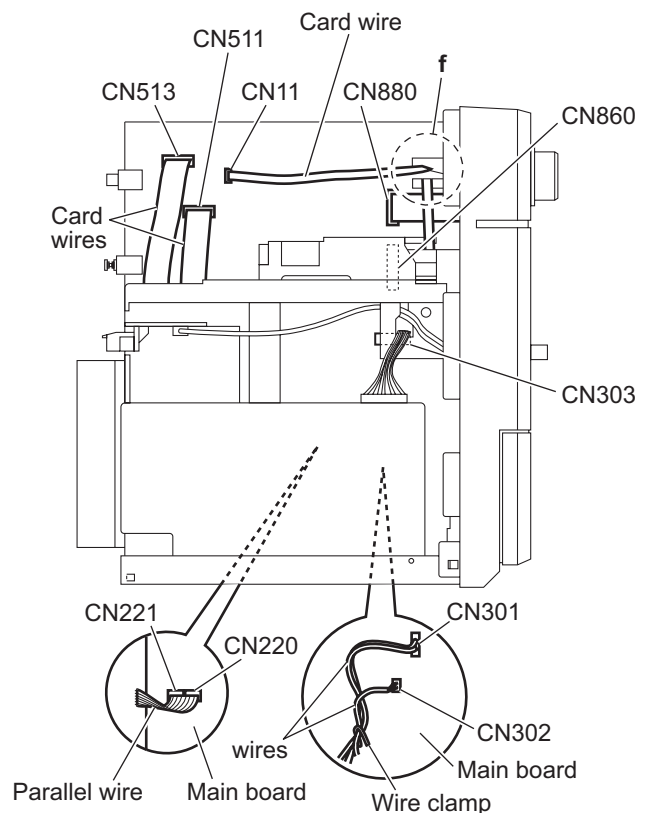

Fig.15
- (4) Remove the wire clamp fixing the wires and disconnect the wires from the connector (CN301, CN302) on the forward side of the main body. (See Fig.15.)
After connecting the wires to the connectors, fix the wires with the wire clamp as before. (See Fig.15.)
- (5) Disconnect the parallel wire from the connectors (CN220, CN221) on the main board. (See Fig.15.)